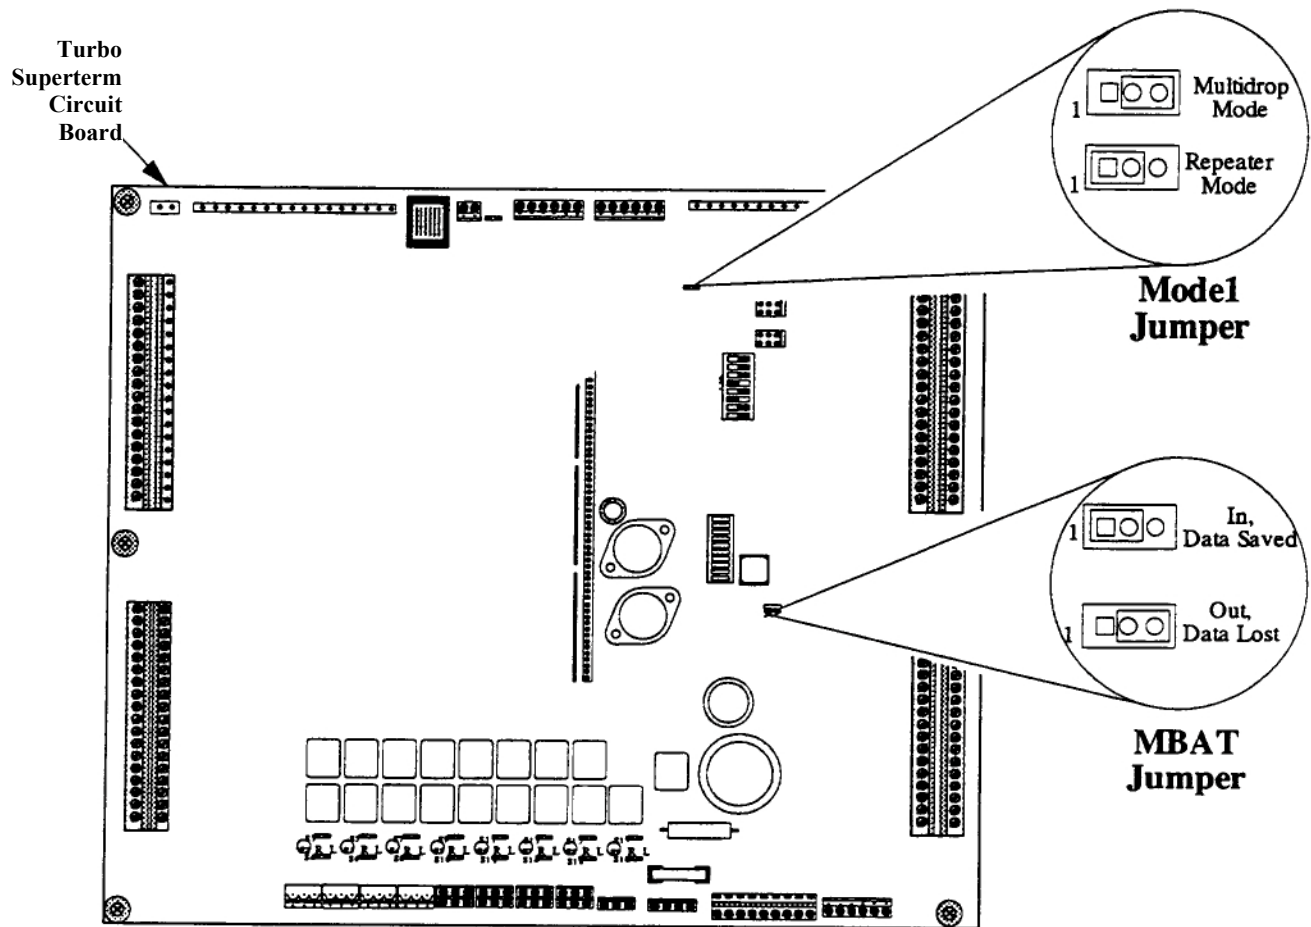

Figure 48 - Jumper Locations and Settings
A lithium battery preserves data stored in memory for 6 months in the event of a power failure or loss of the system battery-backup (see Figure 48).
The MODE 1 jumper is used to designate the particular Turbo Superterm as an active REPEATER or a passive MULTIDROP network member (see Figure 48).
1. Remove MBAT jumper and place on pins 2 and 3 (OUT). See page 77 (Figure 48).
7. Restore power. Reconnect power connector at bottom of board. Replace MBAT jumper on pins 1 and 2 (IN), See page 77 (Figure 48). The "Heart beat" lamp should blink (at a rate of once every second) at location T1 on the LED display.